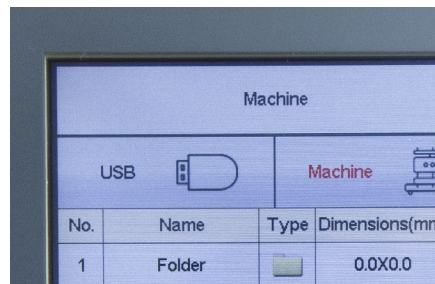

Figure 69
Your Ricoma embroidery machine reads DST files, the most common of all embroidery file types. If your embroidery file is saved as another file type, you will need to change the file type by using the software that comes with your machine. In order to run an embroidery job, you must first import a DST file into the machine. **See Figure 69.**
- Press the Design key to enter the USB/embroidery machine's memory interface. Select the USB icon. **See Figure 69.**